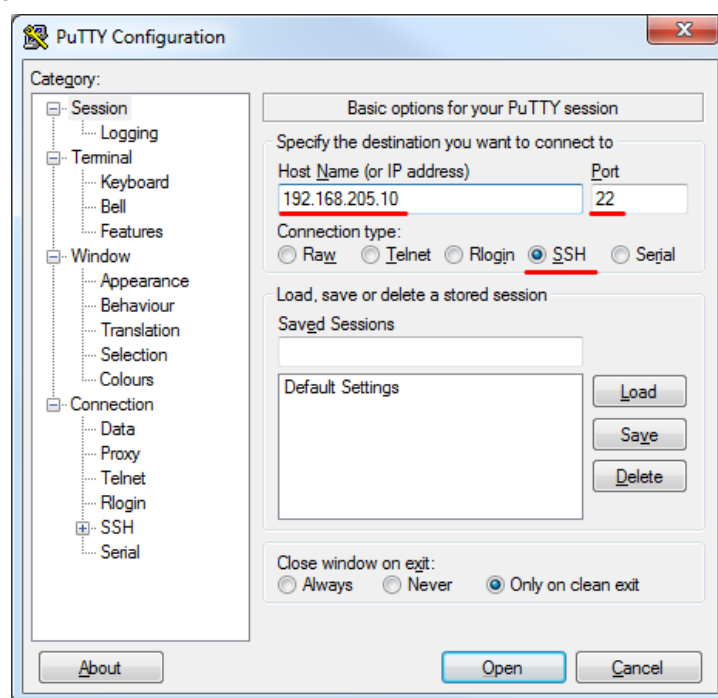

Figure 4-5 PuTTY interface for SSH connection
- 1) Open PuTTY, choose "Connection Type": "SSH", enter the IP address, and make sure that the correct port number is used ("22" by default), see *Figure 4-5 PuTTY interface for SSH connection*: